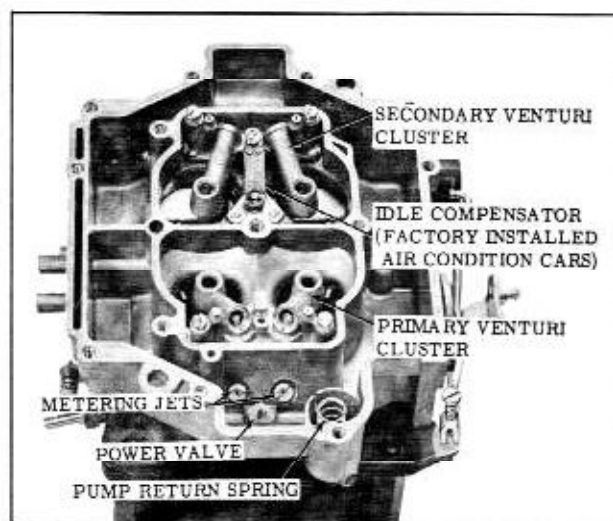

Fig. 8-111 Float Bowl Assembly
7. Remove the three attaching screws and lock washers from the venturi cluster on the primary side, then remove the cluster and gasket. (Fig. 8-111)